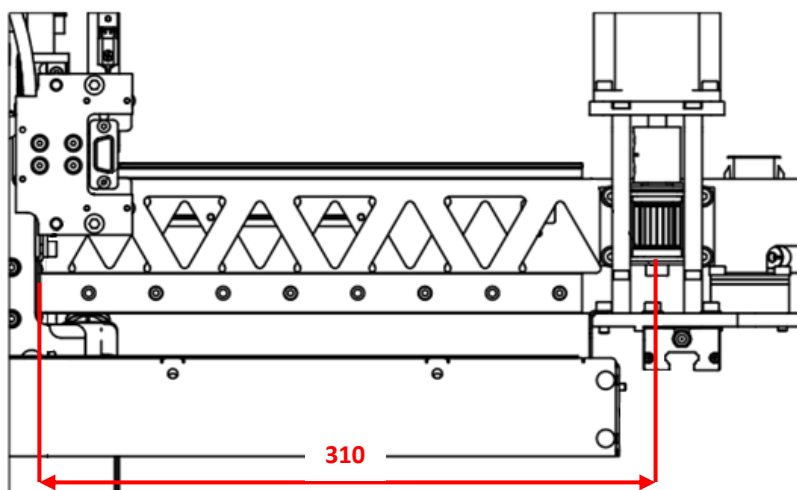
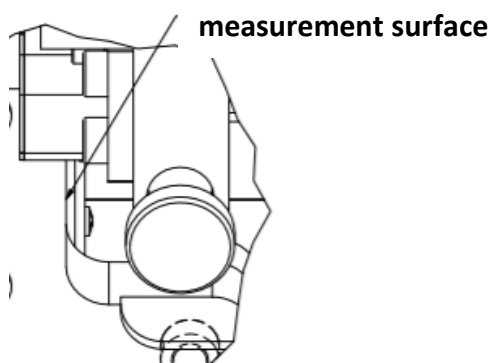
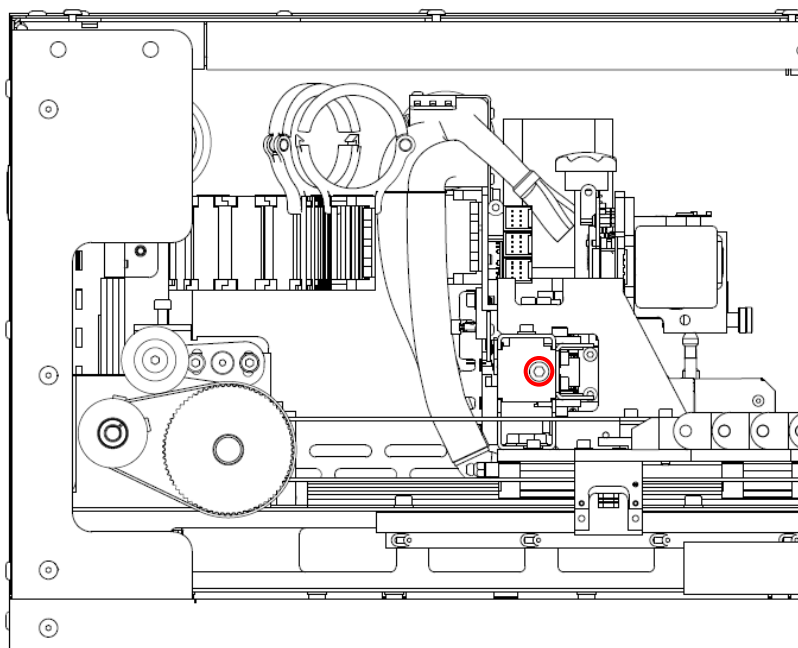

Fig. 114 Module carriage position ready for tensioning
Fig. 115 Detail showing base surface for measuring position
Fig. 117 Tensioner X adjustment screw
- b) Move the module carriage to the position described in Fig. 114. Fig. 115 shows the module carriage surface to be used for positioning the carriage on the machine.
- e) Adjust the belt tension by tightening (to increase belt tension) or loosening (to decrease belt tension) the tensioner adjusting screw (Fig. 117). Use a size 5 HEX screwdriver for the adjustment. The adjustment values are shown in Table 4. They vary depending on whether you adjust a new or used drive belt. Belt tension should be measured with a belt tension meter using the oscillation frequency. The measurement should be made in the middle of the belt section to the right of the module carriage in the position shown in Fig. 114.